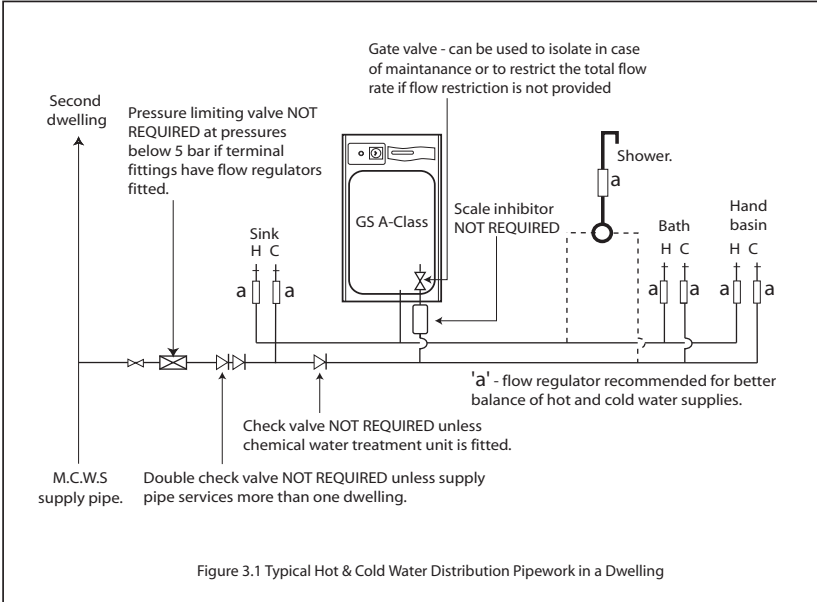

Figure 3.1 Typical Hot & Cold Water Distribution Pipework in a Dwelling
- (a) GulfStream^{A-CLASS} is designed to be connected directly to the mains and fulfill the requirements of Water Byelaw 91 and therefore do not require a check valve to be fitted to the supply pipe. However should ancillary equipment requiring a non-return valve be fitted to the same mains supply as the GulfStream, then this valve must not be fitted between the inlet of this mains supply to the property and the GulfStream (see figure 3.1).